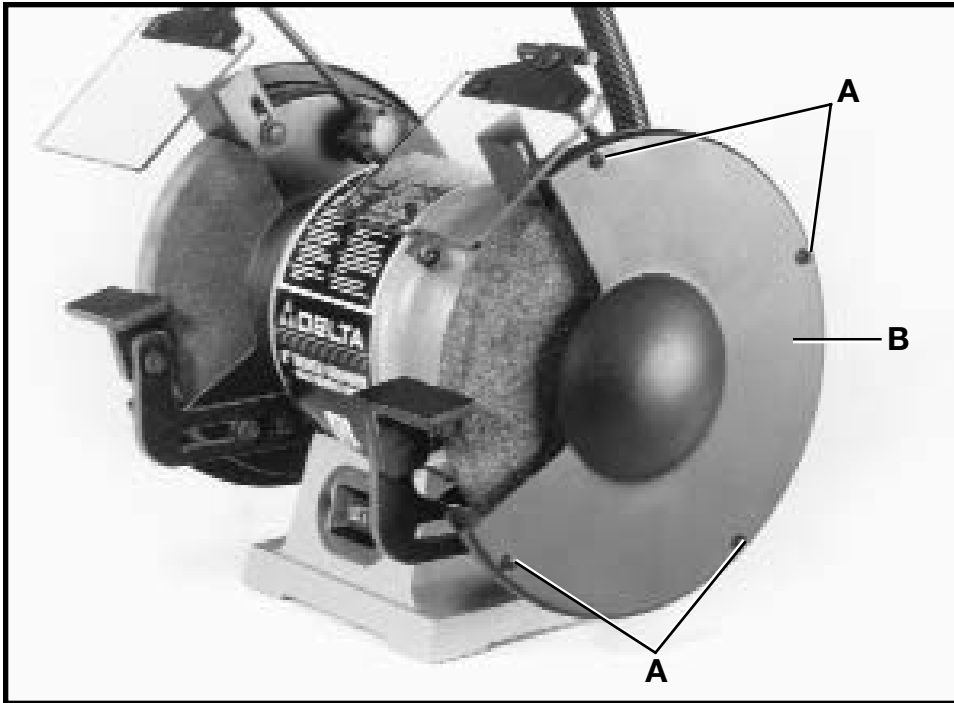
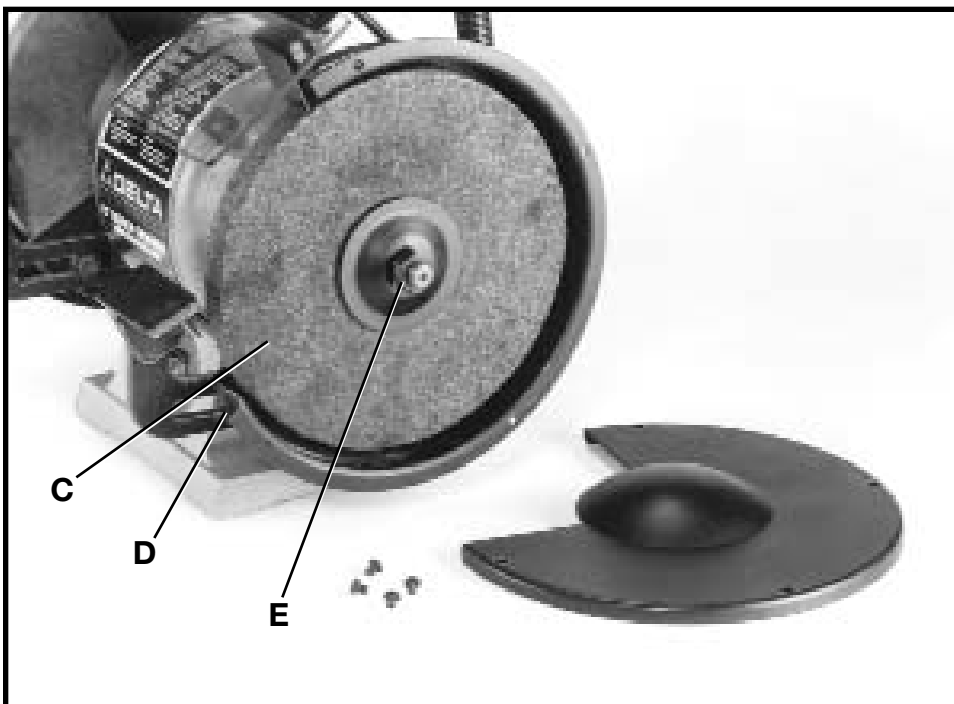

Fig. 16
Fig. 17
When changing wheels, simply remove four screws (A) Fig. 16, and remove the side cover (B). To prevent shaft rotation, place a wedge (C) Fig. 17, and the wheel guard (D). Facing the front of the grinder: to replace the grinding wheel on the right, turn the arbor nut (E) Fig. 17, counterclockwise to loosen; clockwise to tighten the arbor nut. To replace the wheel on the left side of the grinder, turn the arbor nut (E) clockwise to loosen; counterclockwise to tighten the arbor nut.